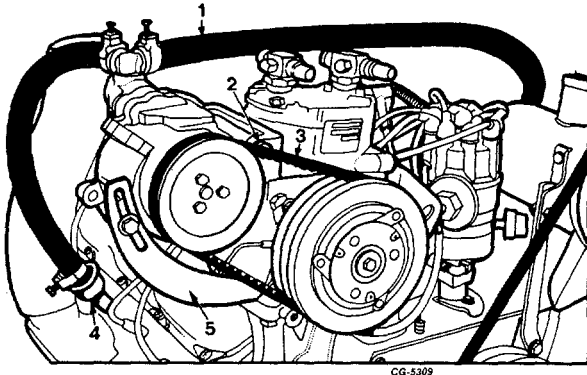

Fig. 16 Air Pump Removal
- 11. Remove hoses to left and right cylinder head check valves from the air pump, if so equipped. Remove air pump adjusting strap bolt and flat washer and air pump mounting bracket bolt, nut and flat washer, Figure 16. Remove air pump.